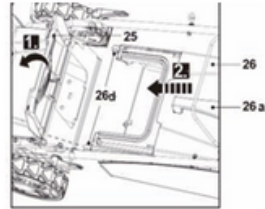

Fig. 5
3. Open the rear discharge cover (25) and hold it in this position (Fig. 5, step 1).
5. Align the hooks (26d) with the holes and hang the grass catcher on them (Fig. 5, step 2).
6. Carefully lower the rear discharge cover (25).